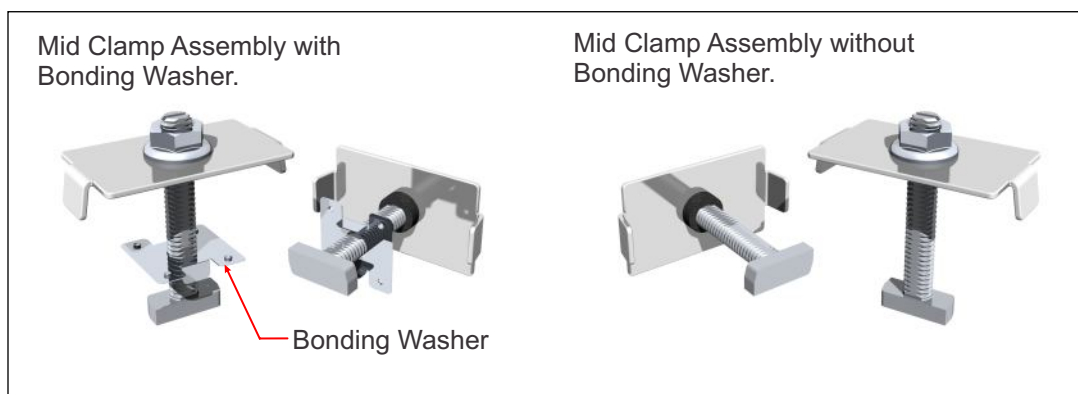

Figure 2: The two types of Mid Clamp Assemblies
1. Mid Clamps with Bonding Washer and Mid Clamps without Bonding Washers (Figure 2).